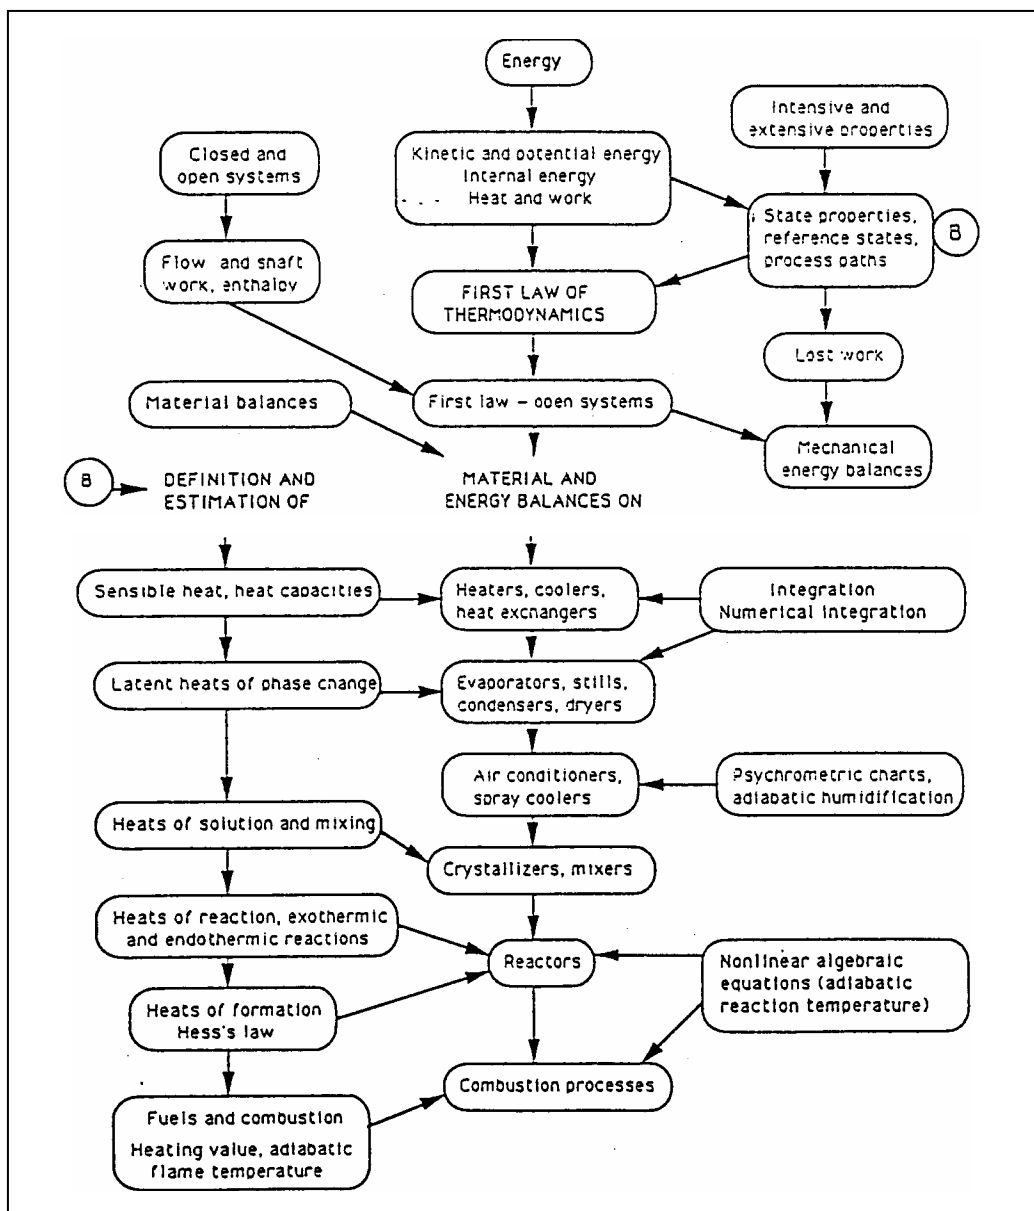

Figure 2. Knowledge structure—energy balances.
## **Knowledge Structure Energy Balances (Figure 2)**
- Most of the content of this part of the course consists of (a) definitions of and procedures for measuring and estimating the energy-related variables that characterize chemical process systems— heat capacities, latent heats of phase change, solution, and mixing, and heats of reaction, formation, and combustion; (b) procedural and computational algorithms for calculating internal energy and enthalpy changes associated with transitions from one system state to another; and (c) procedures for solving the first law equation for unknown energy flows or changes in state in various unit processes. The sequence of the information flow is suggested in Figure 2.